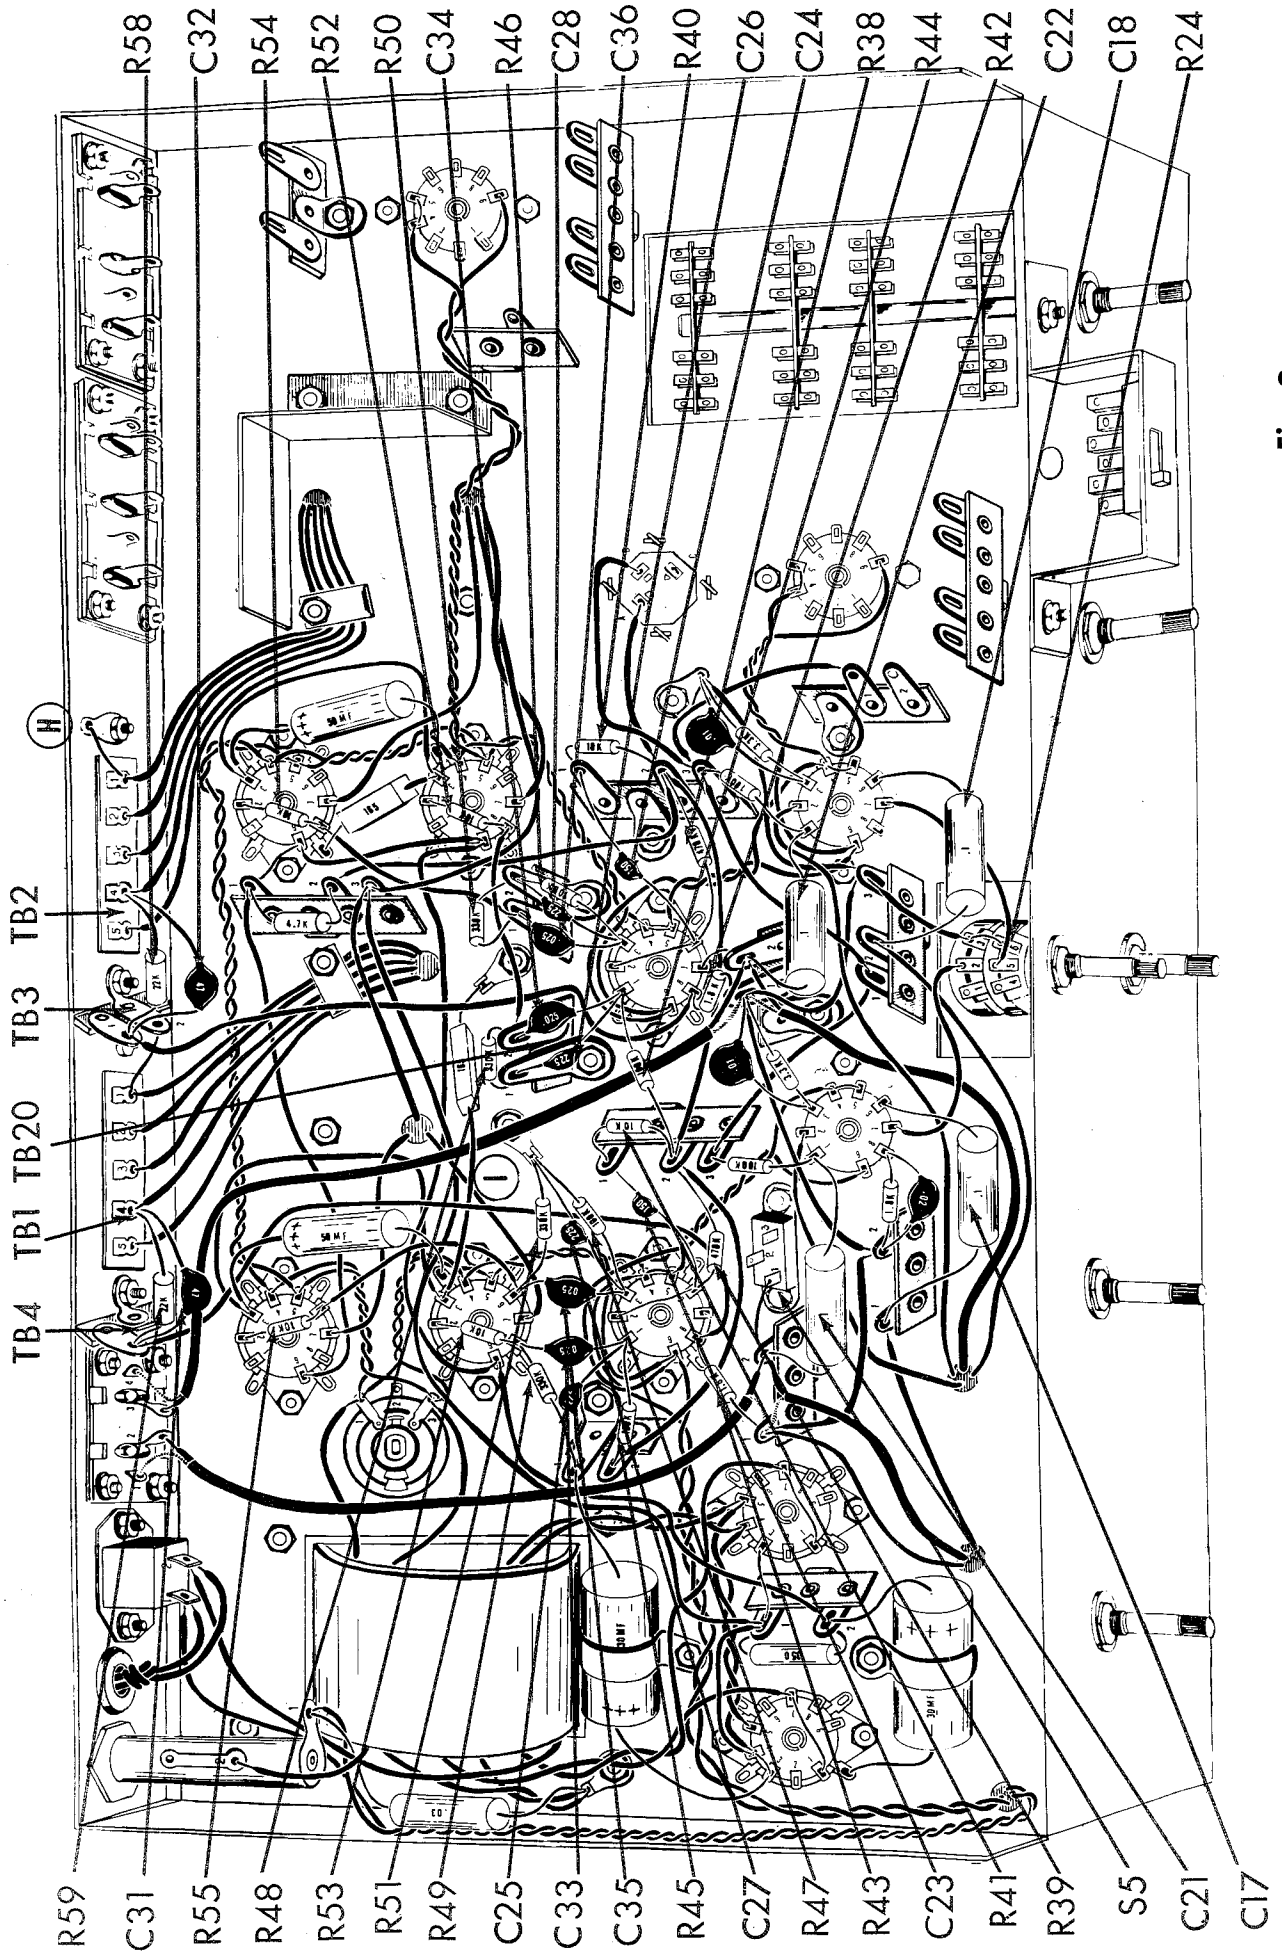

Fig. 9
1. (✓) Fig. 9. Connect a 2 1/2" piece of green wire from R24-5(S1) to XV4-7(S1).
2. (✓) Fig. 9. Connect a 9" piece of black wire from XV5-8(C) to TB4(C).
3. ( ) Fig. 9. Connect a 9" piece of black wire from XV6-8(C) to TB3-1(C).
4. (✓) Fig. 9. Cut all leads on two 47mmf, 10% disc capacitors, C31 and C32, to 3/4". Connect C32 from TB2-4(C) to TB3-1(C) and the other capacitor, C31, from TB1-4(C) to TB4(C). Each lead is to be covered with a 1/2" piece of spaghetti.
5. (✓) Fig. 9. Connect a 1" piece of bare wire from TB1-1(S2) to TB3-2(S1).
6. ( ) Fig. 9. Connect a 1" piece of bare wire from TB2-1(S2) to ground lug "H" (S1).
7. (✓) Fig. 9. Cut all leads on the two 22KΩ (red, red, orange, gold) 5% resistors, R58 and R59, to 3/4". Connect R58 from TB2-4(S3) to TB3-1(S3) and R59 from TB1-4(S3) to TB4(S3). Each lead is to be covered with a 1/2" piece of spaghetti.
8. (✓) Fig. 9. Cut all leads on the six 10KΩ (brown, black, orange, silver) resistors, R40, R41, R52, R53, R54, and R55, to 1/2". Connect R55 from XV8-6(S2) to XV8-2(S1). Connect R53 resistor from XV7-8(C) to XV7-2(S1). Connect R54 from XV10-8(S2) to XV10-2(S1). Connect R52 from XV9-8(C) to XV9-2(S1). Connect R41 from TB9-1(C) to TB9-2(C). Connect R40 from TB18-1(C) to TB18-2(C).
9. (✓) Fig. 9. Connect a 3" piece of grey wire from TB20-2(C) to XV9-8(S2).
10. (✓) Fig. 9. Cut all leads on the two 330KΩ (orange, orange, yellow, silver) resistors, R48 and R50 to 1/2". Connect R50 from TB19-2(C) to TB19-1(C). Connect R48 from TB20-1(C) to TB20-2(C).
11. (✓) Fig. 9. Cut all leads on the two 330KΩ (orange, orange, yellow, silver) resistors, R49 and R51 to 3/4". Connect R49 from TB10-1(C) to XV7-8(C). Connect R51 from XV7-6(C) to ground lug "I" (C).
12. (✓) Fig. 9. Cut all leads on the four .025mfd (25K or 25,000mmf) disc capacitors, C33, C34, C35, and C36, to 3/4". Connect C33 from XV5-1(C) to XV7-8(S3). Connect C35 from XV5-3(C) to XV7-6(S3). Connect C34 from XV6-1(C) to TB20-2(S3). Connect C36 from XV6-3(C) to TB19-1(S3).
13. (✓) Fig. 9. Cut all leads on the two 100KΩ (brown, black, yellow, gold) 5% resistors, R45 and R46, to 1/2". Connect R45 from XV5-1(C) to TB10-2(S2). Connect R46 from XV6-3(C) to TB19-2(C).
14. (✓) Fig. 9. Cut all leads on the two 100KΩ (brown, black, yellow, gold) 5% resistors, R44 and R47, to 3/4". Connect R47 from XV5-3(C) to ground lug "I" (C). Connect R44 from XV6-1(C) to TB9-2(C).
15. (✓) Fig. 9. Cut all leads on the two 225mmf disc capacitors, C25 and C28 to 3/4". Connect C25 from XV5-1(S3) to TB10-1(S3). Connect C28 from XV6-3(S3) to TB19-2(S3).
16. (✓) Fig. 9. Cut all leads on the two 225mmf disc capacitors, C26 and C27, to 1". Connect C27 from XV5-3(S3) to ground lug "I" (S3). Connect C26 from XV6-1(S3) to TB20-1(S2).
17. (✓) Fig. 9. Cut all leads on two 1.8KΩ (brown, grey, red, gold) 5% resistors, R42 and R43, to 3/4". Connect R43 from XV5-8(S2) to TB7-1(S5). Connect R42 from XV6-8(S2) to TB21-1(C).
18. (✓) Fig. 9. Cut all leads on two 470KΩ (yellow, violet, yellow, silver) resistors, R38 and R39, to 3/4". Connect R39 from XV5-6(C) to TB9-2(S5). Connect R38 from XV6-6(C) to TB18-2(S5).
19. (✓) Fig. 9. Cut all leads on two 150mmf disc capacitors, C23 and C24, to 1". Connect C23 from XV5-6(C) to TB9-1(S2). Connect C24 from XV6-6(C) to TB18-1(S2).
20. ( ) Fig. 9. Connect a 1 1/4" piece of bare wire from TB7-2(C) to S5-1(S1).
21. (✓) Fig. 9. Connect a 3/4" piece of bare wire from TB21-2(C) to XV6-7(S1).
22. (✓) Fig. 9. Connect a 1" piece of bare wire from XV5-2(S1) to XV5-6(S3).
23. (✓) Fig. 9. Cut a 1" piece of bare wire from XV6-2(S1) to XV6-6(S3).
24. (✓) Fig. 9. Cut all leads on four .1mfd (brown, black, yellow, yellow) molded capacitors, C17, C18, C21 and C22, to 3/4". Cover each lead with a 1/2" piece of spaghetti. Connect C17 from XV3-6(C) to TB8-1(S2). Connect C18 from XV4-6(C) to TB11-2(S2). Connect C21 from XV3-1(C) to TB7-2(S4). Connect C22 from XV4-1(C) to TB21-2(C). Dress the leads as shown and push all capacitors flat against the chassis.